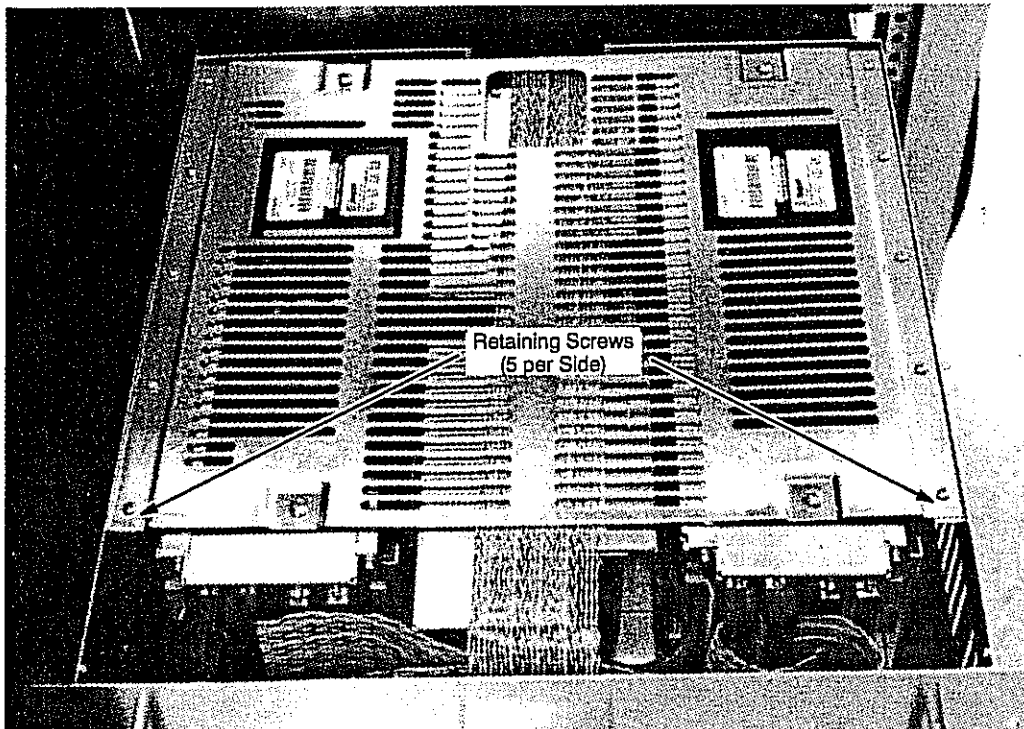

Figure 7-54. PE-4 Drawer Trim
4. Remove the five screws along each edge of the top cover. (Refer to Figure 7-54.)